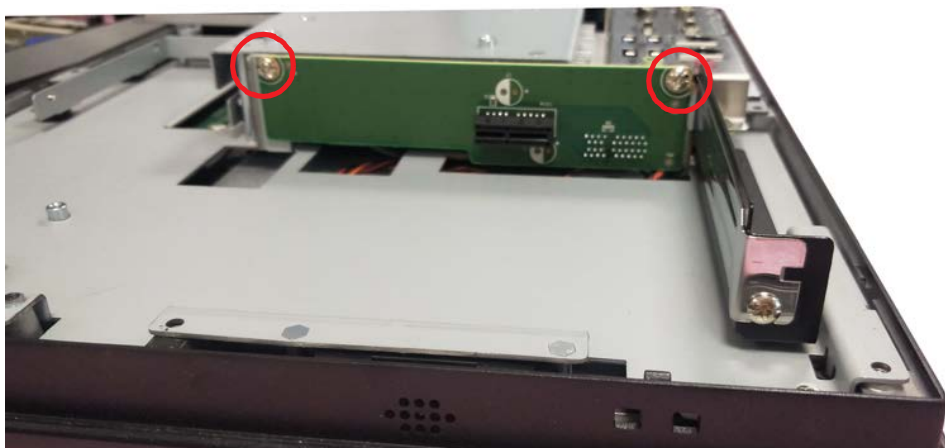

Figure 2.27
2. Insert the riser card into the designated slot and fasten it securely using two screws (refer to Figure 2.27).